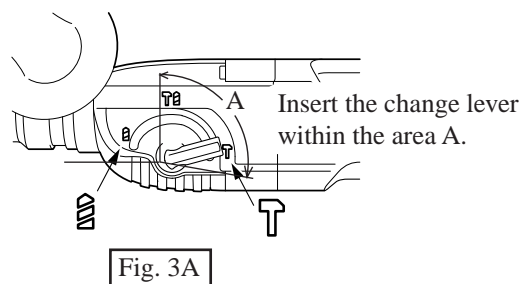

Fig. 3A
3. Insert the change lever in which compression spring 3 and lock button have been temporarily fixed with cap, into the assembling hole of gear housing. See Fig. 3A. The change lever can not be inserted completely in this stage.